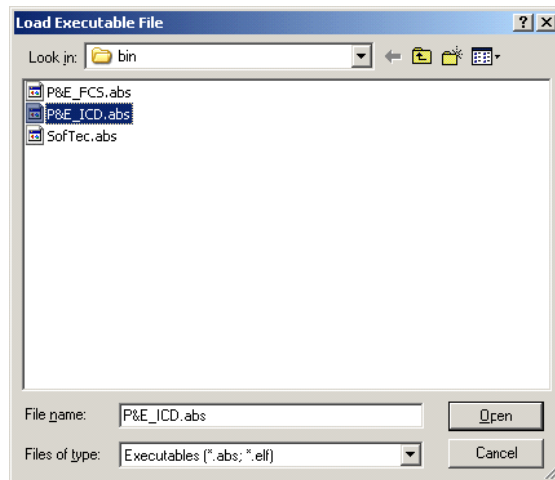

Figure 17. Load Executable Dialog Box
- When the load button is pressed, the "Load Executable File" dialog box opens as shown in Figure 17.